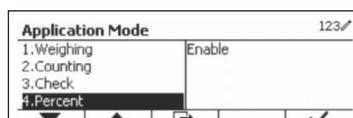

Figure 74
- In the Application Mode menu, enter the Percent submenu. (See Figure 74)